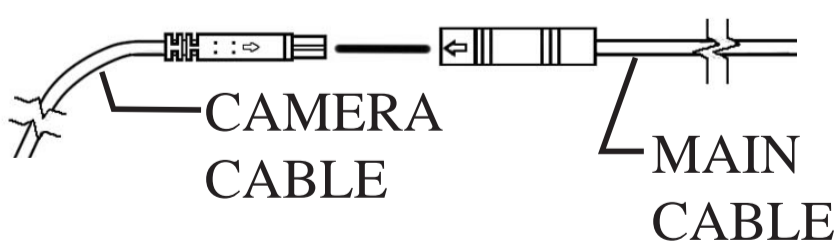

FIGURE 3
1. Plug the MAIN CABLE into the CAMERA CABLE as shown in Figure 3.